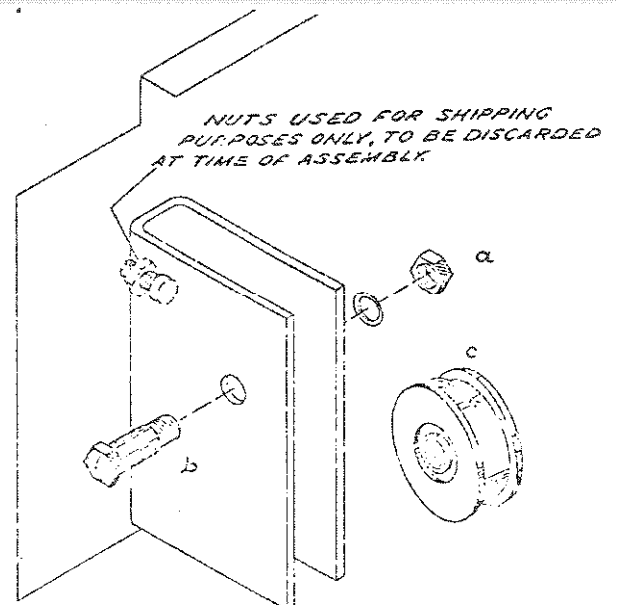

FIG. 5 Removing pulley and bracket.
5. Remove the cable roller bracket from the L. H. end of header, (see FIG. 5).